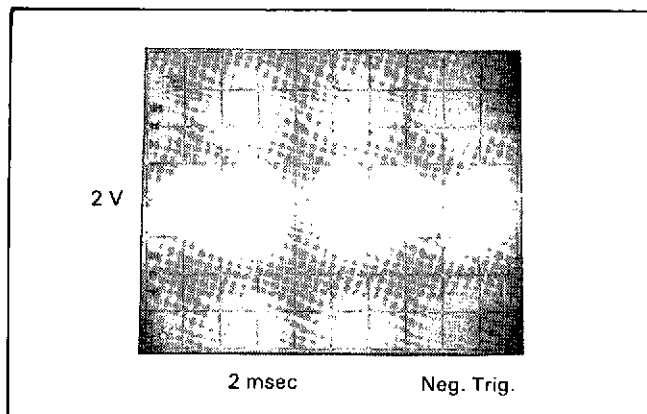

Figure 8-B-3. A/D Zero Waveform.
g. Place the A/D Test Jumper A20J29 (Schematic 4) in the GND position, as shown in Figure 8-B-1.
i. Connect the vertical input of an oscilloscope to A20TP405 (use ground #4 as low). With the scope in the external trigger mode, connect the trigger input to TP404. Using the scope set-up information in Figure 8-B-3, check the waveform shown in the figure (Schematic 4).
3. Move A30J33/J34 to the "2" (middle) position (Schematic 8), as shown in Figure 8-B-2.